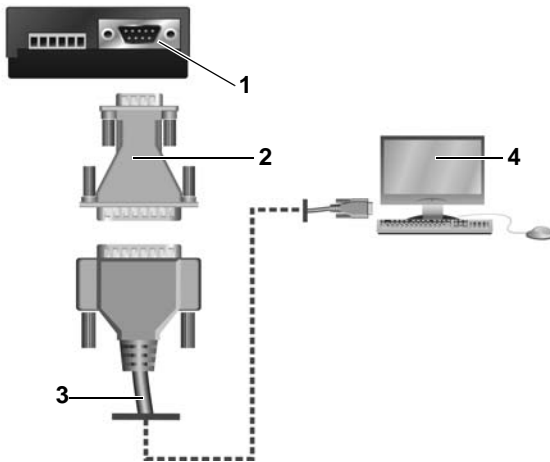

Figure 2.4: Terminal Accessing a Terminal Server for Initial Stage Setup (TS Mode)
An example of a TS100 terminal server being accessed by a terminal through a serial connection with Cyclades console cable and adaptor is shown in Figure 2.4. The callout descriptions are given in Table 2.4. During this part of the setup procedure, the TS100 terminal server will be running in Terminal Server (TS) mode.